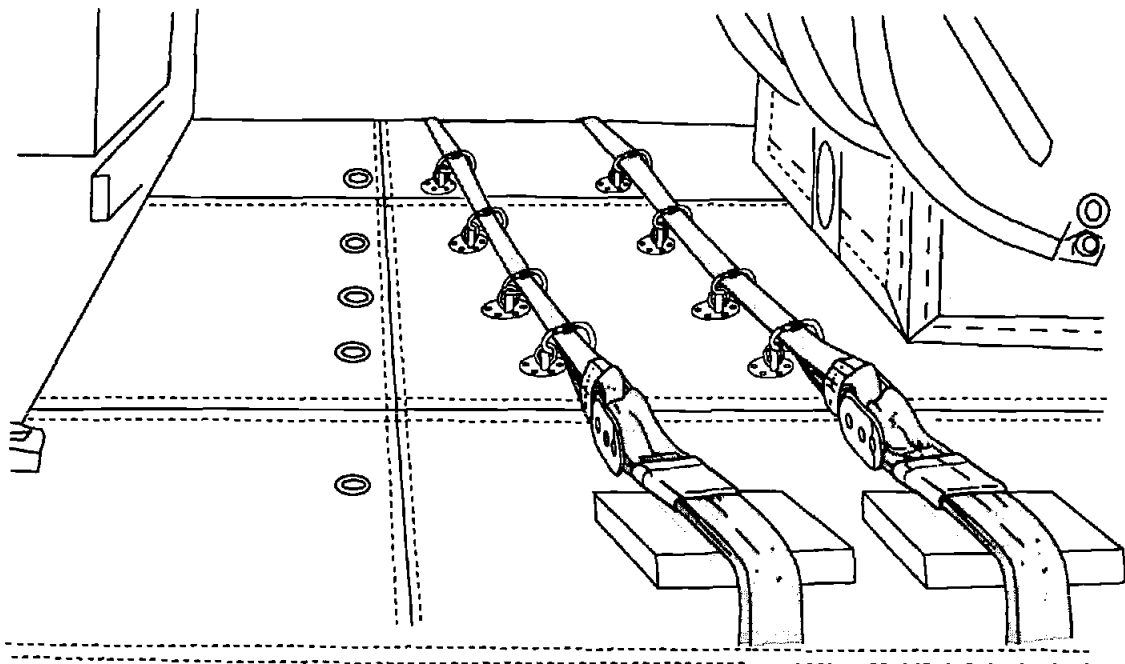

Figure 6-1. Primary Installation.
- When using this method, eight carabiners are required to connect the slings to eight different cargo tie downs, four carabiners per loop (see fig. 6-1).